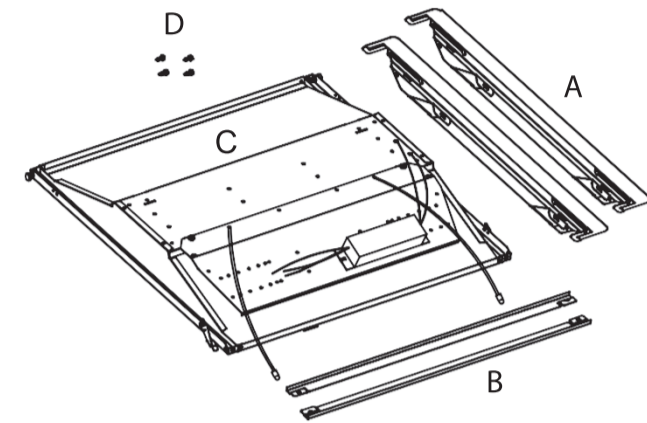

Figure 1
1. Prior to installation, disconnect all incoming power to fixture. Remove existing hardware (lens/lens frame, parabolic louver, reflectors/ballast covers, brackets, lamps/lamp holders). Leave supply and grounding leads.(Fig.1)
1. DIP switches are located onto the drive box.(see Fig.1)